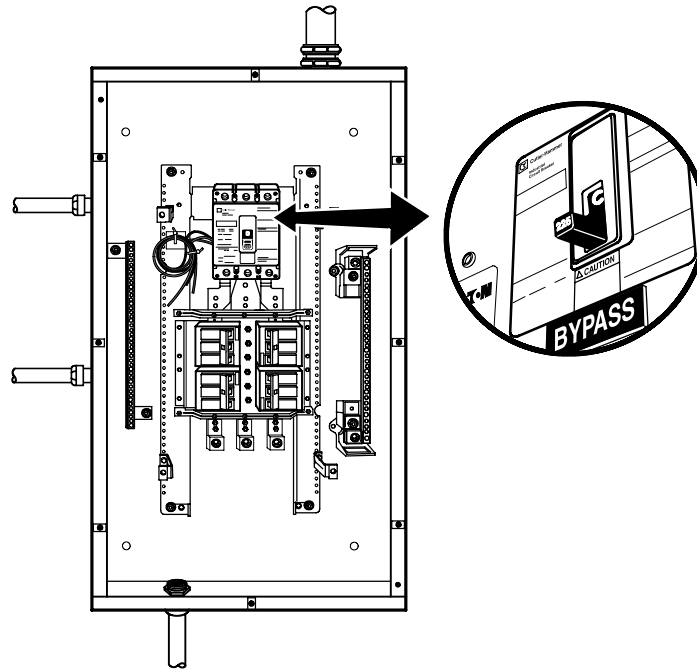

Figure 20. Bypass Breaker
8. Verify that the bypass breaker is in the OFF position (see Figure 20).